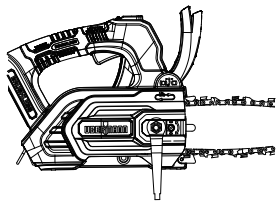

Fig. 1
1. Totally loosen the side cover nut counterclockwise with the assistance of wrench. Then remove the side cover (Fig.1).
5. Replace the side cover and slightly tighten the side cover nut (Fig.1). Do not tighten too much. Meanwhile, protect the saw chain from sliding out.
7. Fully tighten the side cover nut clockwise (Fig.1).